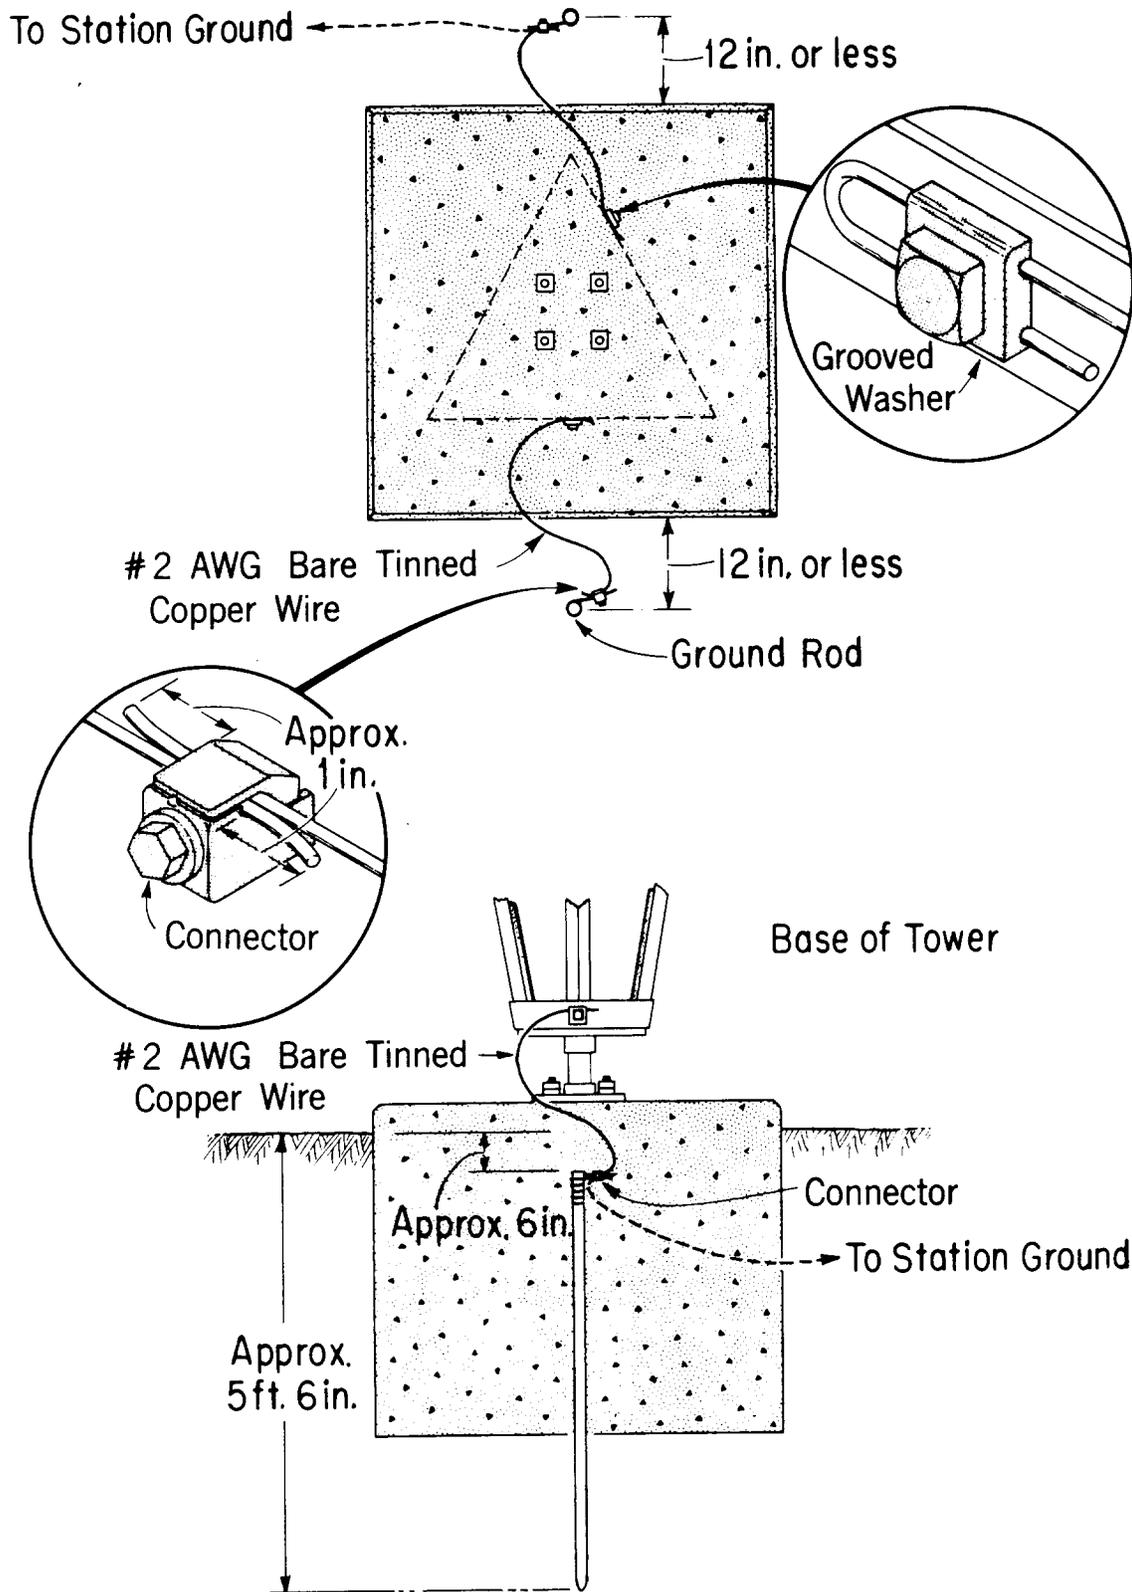

Fig. 1—Grounding at Guyed Tower Foundations
2.02 The method of grounding a guyed tower is illustrated in Fig. 1 and 2. Grounding is accomplished by installing two ground rods alongside the foundation and each of the anchor blocks, and electrically connecting them to the tower leg and the anchor rods, respectively. For maximum protection, the ground rods should be located adjacent to the midpoint of opposite sides of the concrete blocks.
2.03 Grounding at the foundation is illustrated in Fig. 1. The ground rods are placed within 12 inches of the foundation and driven so the top of the rod is 6 inches below final grade. Connectors are used to join the pigtail wire at the top of the rod to a length of No. 2 AWG bare-tinned copper wire. About 7 feet of wire should be provided aboveground to make the connection to the base of the tower. Each wire is secured to the tower under a grooved washer held in place with a 1/2-inch machine bolt. Two 9/16-inch diameter holes are provided in the base for locating the bolts. The wire should extend about 1 inch beyond the edge of the washer. After the connection is tightened, it should be painted over with black pitch or a similar waterproofing to prevent galvanic action between the dissimilar metals, the copper wire and the galvanized tower.